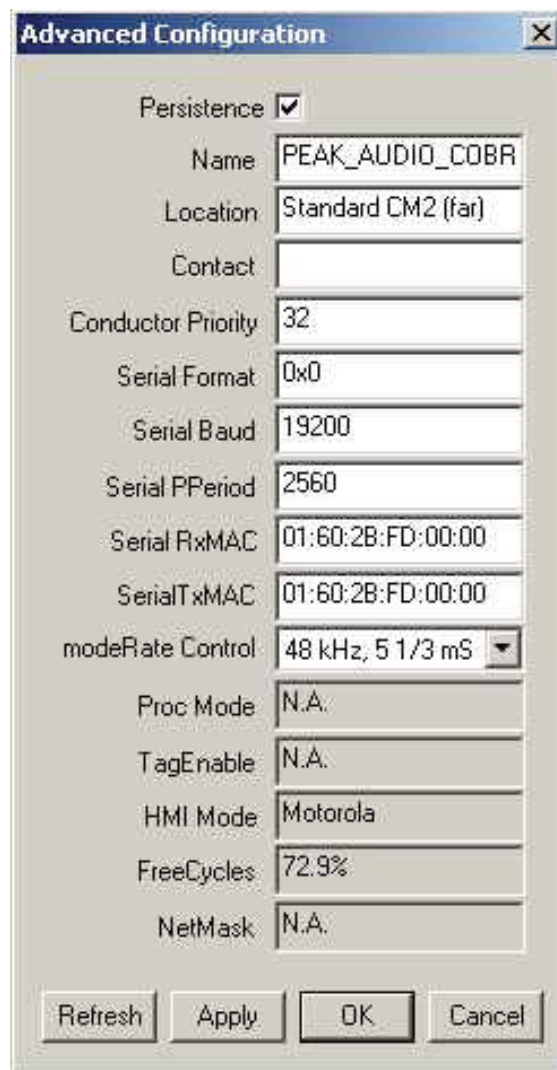

Figure 1-4: Global Interface settings
- Main Interface settings: This section covers the more advanced variables not usually associated with bundle management and which apply to the CobraNet™ device globally (see Figure 1-4). These are explained in detail in the CNDISCO manual, but 2 are of particular importance to the ION series interfaces, ie...
The ION2.0 and ION0.2 are simple devices and do not contain a host processor and no access to multiple preset functionality. However, the Cobranet flash can be used to save Cobranet interface settings via “persistence” (see previous section and Figure 1-4). If the persistence option is enabled, then the last set of values/settings can be stored into the Cobranet flash and will be restored on power up. Note that these settings can take up to 1 minute to save, as they are stored in between other processes. Also note that DSP settings are not stored-only Cobranet interface settings.